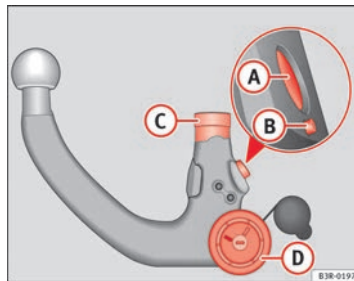

Fig. 168 Removable towing bracket: Ball joint
- Check the locking pin ①, release pin ②, shaft section ③ and knob ④ ⇒ Fig. 168 on the ball joint to make sure they are clean and undamaged. ▶